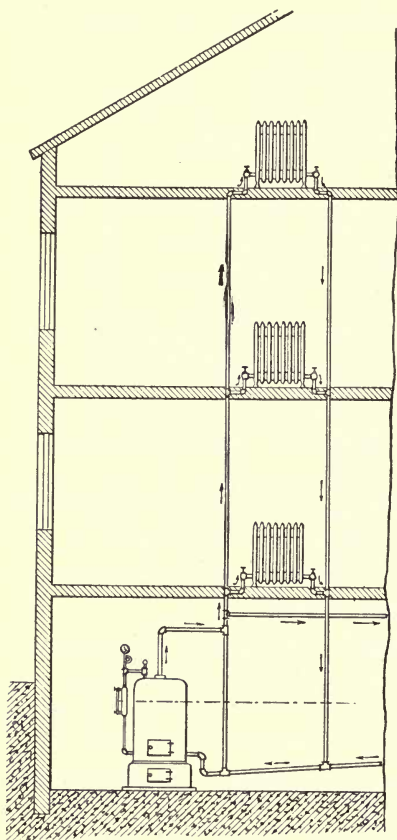

FIG. 173.—Steam Heating System.
**384. Steam Heating.**—Steam for heating (Fig. 173) is obtained from a boiler fitted with coils of pipe. As the steam passes through the radiator it gives off its heat and is condensed into water. This water flows back into the boiler, either through another return pipe or through the same pipe.